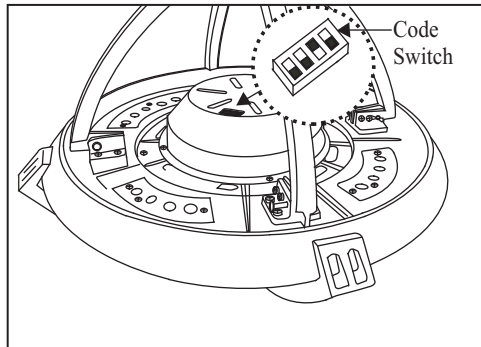

Figure 20
1. The receiver frequency selector is located on the top of the motor assembly plate as show in Fig. 20.